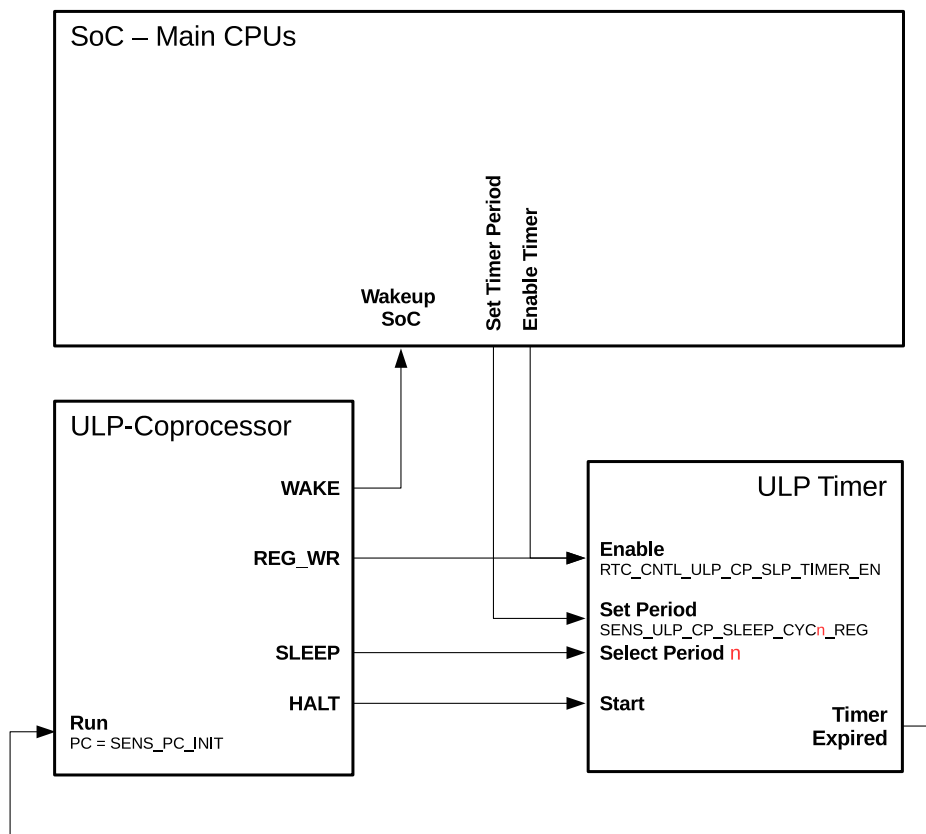

Figure 158: Control of ULP Program Execution
The ULP co-processor puts itself into sleep mode by executing the HALT instruction. This also triggers the ULP timer to start counting RTC_SLOW_CLK ticks which, by default, originate from an internal 150 kHz RC oscillator. Once the timer expires, the ULP co-processor is powered up and runs a program with the program counter (PC) which is stored in register SENS_PC_INIT. The relationship between the described signals and registers is shown in Figure 158.